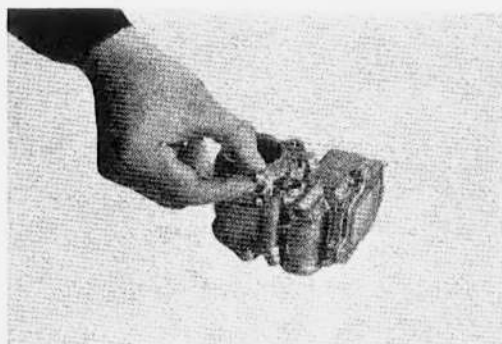

Figure 134
- (5) Screw on intake ball check and then screw on discharge ball check (Fig. 134).